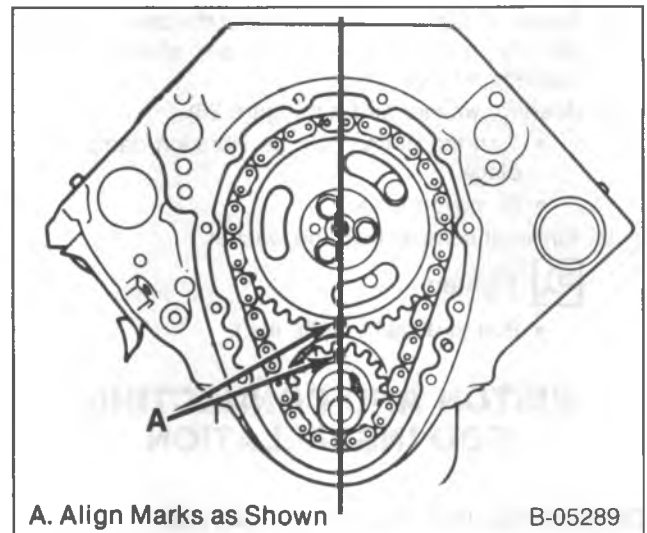

Figure 31—Timing Marks
- Line up the timing marks on the camshaft sprocket and crankshaft sprocket (figure 31).